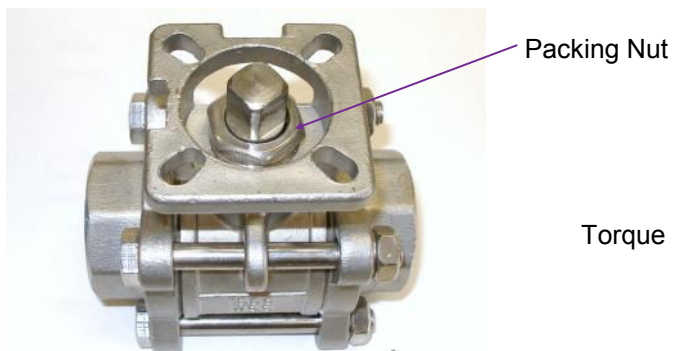

Figure 1: Isolated valve body with packing nut indicated.
3. Tighten the packing nut (see Figure 1 below)